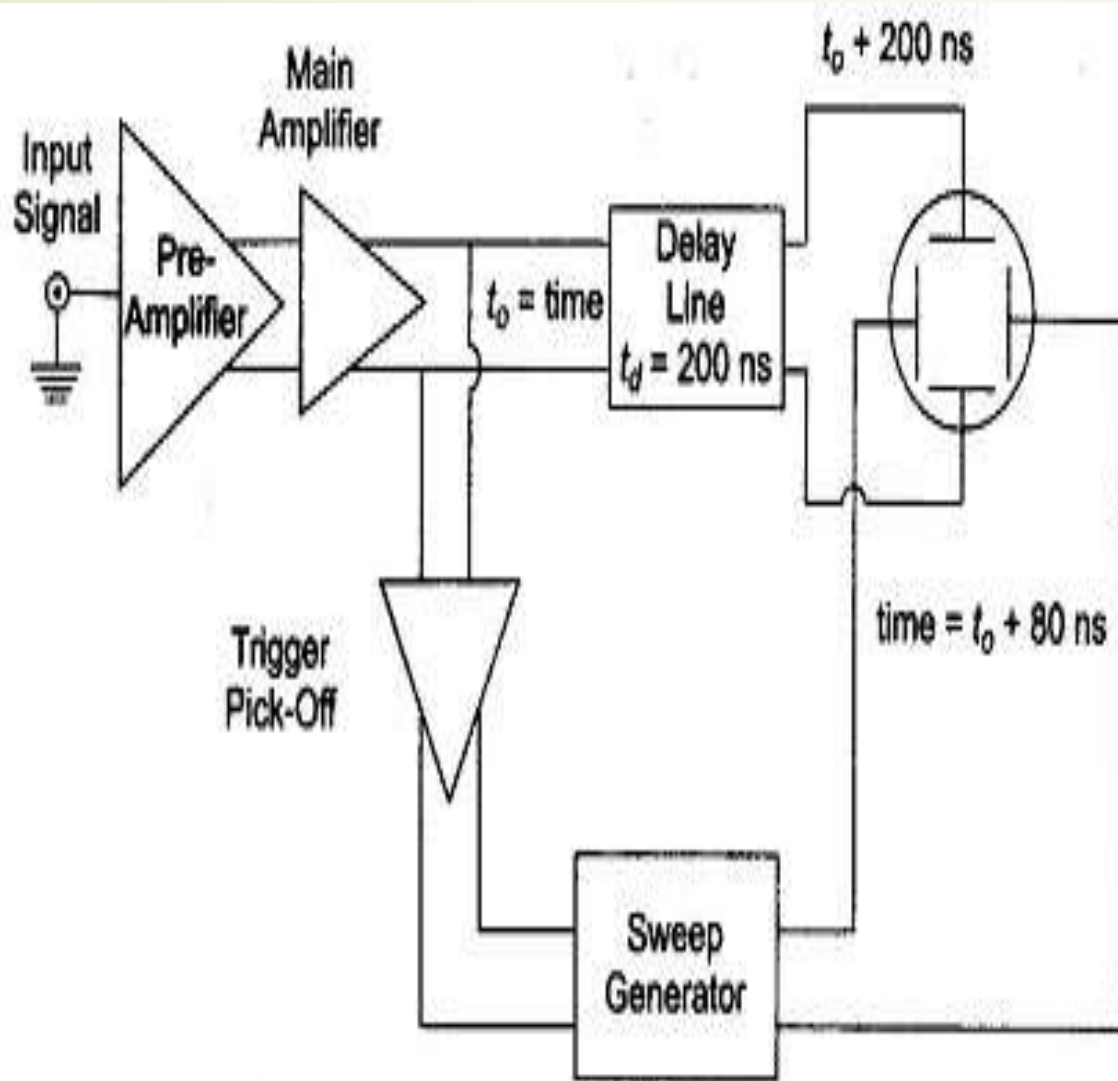

Fig. 7.13 Delay Line Circuit
- Figure 7.13 shows a Delay Line in Triggered Sweep Circuit. Figure 7.14 indicates the amplitude of the signal wrt time and the relative position of the sweep generator output signal.
- To counteract this disadvantage the signal is not applied directly to the vertical plates but is passed through a delay line circuit, as shown in Fig. 7.13. This gives time for the sweep to start at the horizontal plates before the signal has reached the vertical plates.